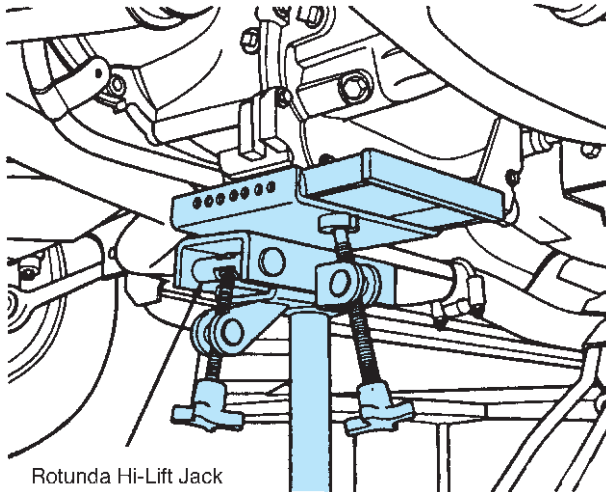

FIGURE 8-12 A transmission jack has been positioned to support this transaxle before removing the mounts and supports. (Courtesy of Ford Motor Company)
9. Position a transmission jack to support the transaxle, remove any transaxle mounts or supports, remove the remaining clutch housing bolts, and install the second guide pin (if not already installed). Slide the transaxle away from the engine to clear the clutch, and lower it out of the vehicle (Figure 8-12).